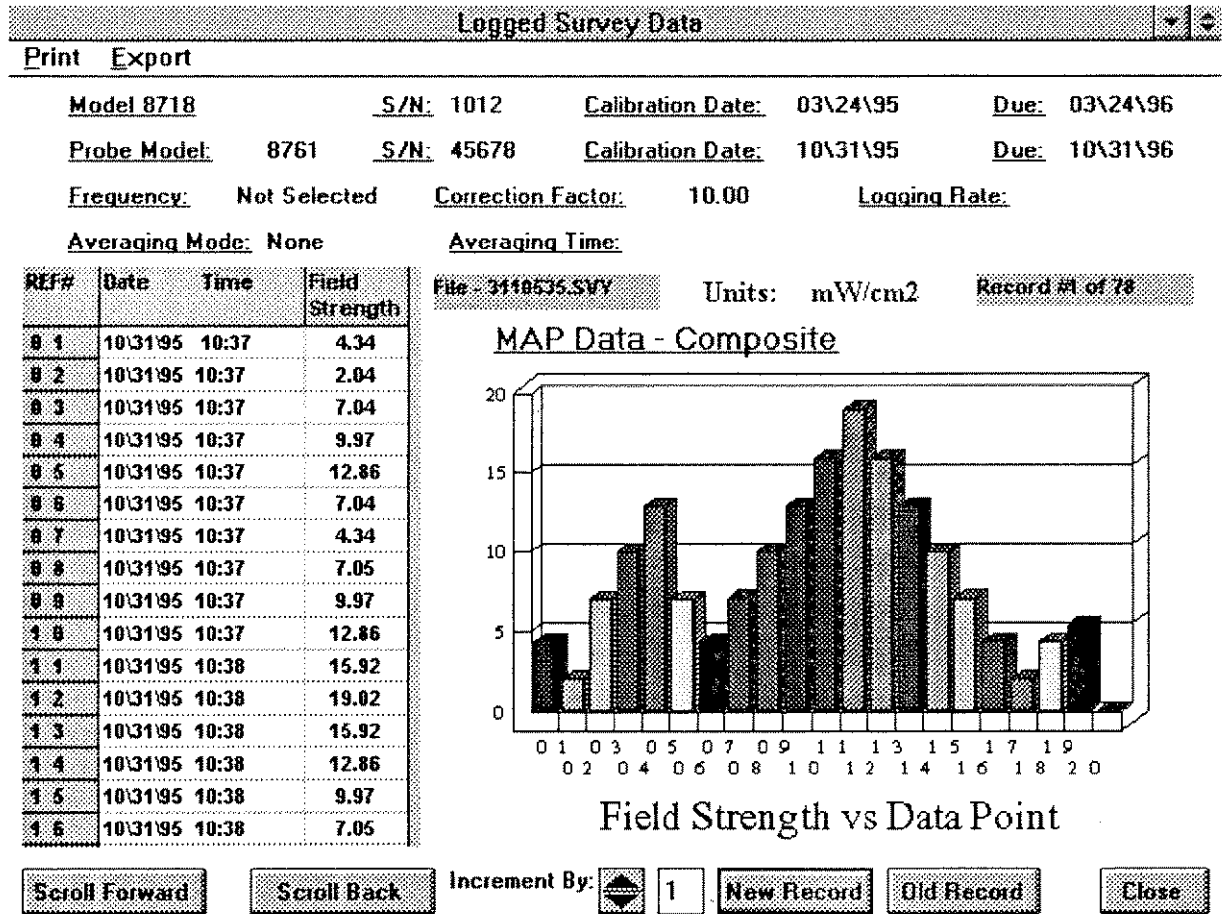

Figure 5-2. Interface Software Logged Survey Data Window
4. A new window labeled **Logged Survey Data** will appear. Figure 5-2 is an example of a logged data file window.